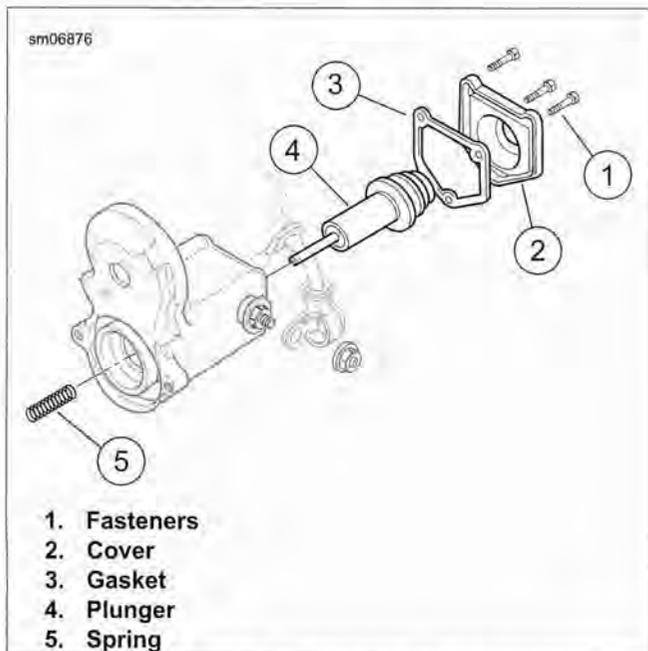

Figure 6-29. Solenoid Plunger
1. See Figure 6-29. Remove the fasteners (1), cover (2), and gasket (3).
2. Remove the plunger (4) with the spring (5).